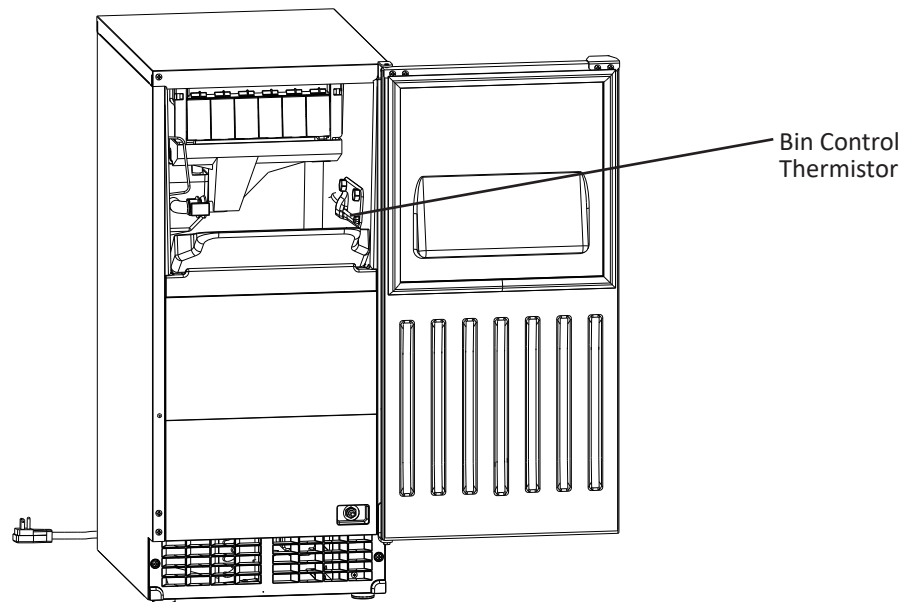

Fig. 36
- 10) During the first 5 minutes of the freeze cycle (compressor energized), confirm bin control operation by holding ice in contact with the bin control thermistor. See Fig. 36. The icemaker shuts down within 30 sec. Remove the ice. After 30 sec. the icemaker restarts the automatic ice making process.